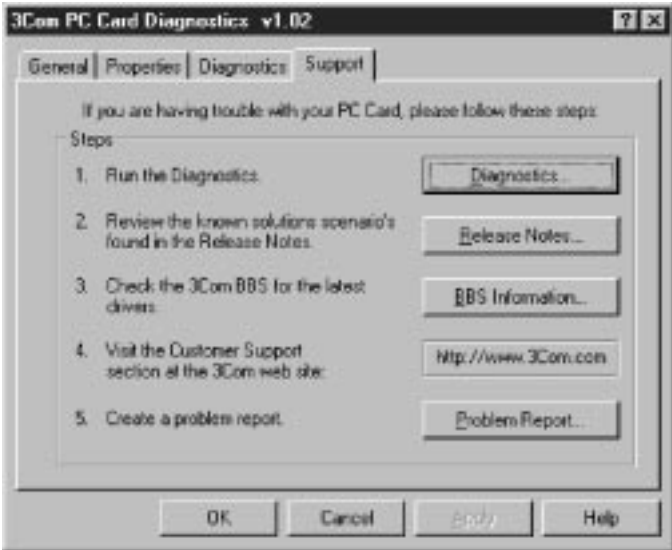

Figure 3-6 Support Screen
The support screen (Figure 3-6), provides buttons for the following 3Com support services:
- 1 To access the 3Com support screen (Figure 3-6), click the *Support* tab on the 3Com PC Card Diagnostics general screen, shown in Figure 3-3.